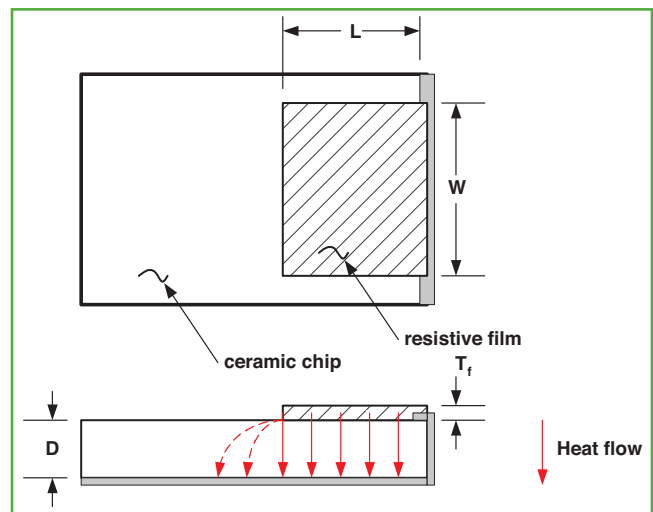

Figure 8: Chip termination showing heat flux
Assuming, from the aging tests, that the designer now knows the maximum film temperature allowable at full applied power, it must now be determined how to insure it is not exceeded – and what limitations it imposes on electrical performance. **Figure 8** shows the heat flux in a chip termination. We begin with three simplifications to establish an elementary thermal model:
(1) The heat is generated uniformly everywhere in the film; (2) the heat flow is one-dimensional – no spreading – from the film to the bottom of the chip, which is assumed at ambient (thermal ground); and (3) there is no convective or radiative heat flow. Concerning (1), we know that the currents in the film tend to be edge concentrated – much more so the lower the resistivity – and so there will be more heat generated at the edges than at the center. Nevertheless, we expect the approximation to be quite good for film geometries where the length and width are substantially greater than the substrate thickness and for the range of film resistivities typically encountered in RF applications. Additionally, we are not considering tapers, wherein the width of the film and hence the power dissipated at any cross-section may vary along its length. Concerning (2), it is understood that there is indeed thermal spreading, not only from the front face of the film – heat flow lines shown dotted in Figure 8 – but from the lateral edges as well. Thus, the second and third assumptions are thermally conservative – there will be additional heat paths beyond those accounted for – while the first will need further investigation since edge-located hot spots could develop at RF that would not be revealed in DC tests.